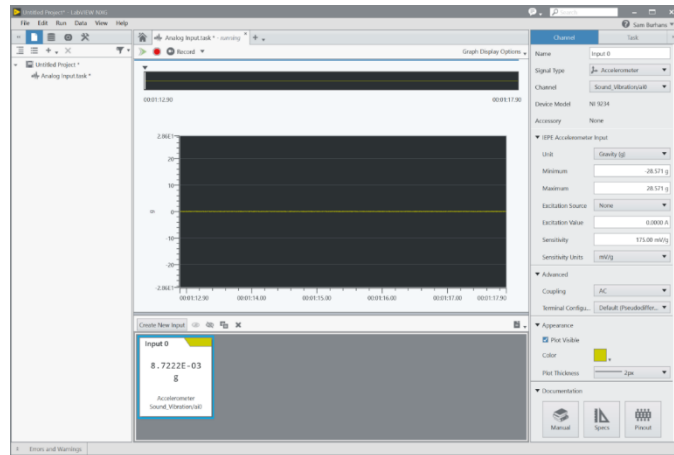

Figure 7-3: The configured measurement is used to confirm electrical connections and quickly acquire data.
7. In the Configuration Pane to the right of your screen, click **Create Analog Input** to begin acquiring a basic voltage measurement in a LabVIEW NXG measurement panel. Data should automatically be acquired and displayed on the graph provided. The graph should look like Figure 7-3.